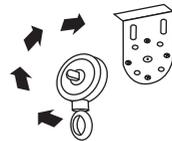

Fig 3
- Turn the clutch unit 90 degrees so the wand eyelet hangs straight down if the clutch unit were mounted from the top (Fig 3).